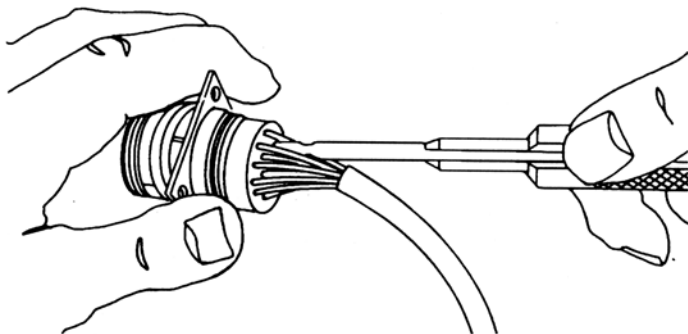

Figure 3-8. Aligning Contact
3. Align contact with the hole in the rear face of the insert (see Figure 3-8). The alignment of the insertion tool with contact must be coaxial with the axis of the connector. When the contact has entered the rear seal portion of the insert, maintain alignment of contact and tool parallel to and in line with the hole. Insert the contact to full depth. User will hear contact click-in when seated fully in retention collet.